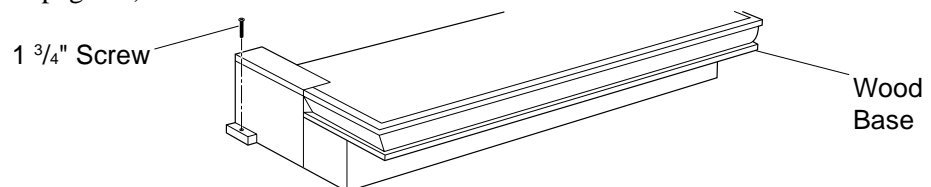

Figure 13 - Attaching Wood Base to Floor
10. Attach wood base to floor with two 1 3/4" black screws provided (see Figure 13). If the floor is concrete use anchor method (see *Attaching Wood Base to Solid Floor*, page 15).
15. Adjust assembly to remove any gaps. Attach remaining two 3" wood screws from hardware pack through openings inside of fireplace sides into the mantel. The openings are located at top behind the area for the brass louvers (see Figure 13).